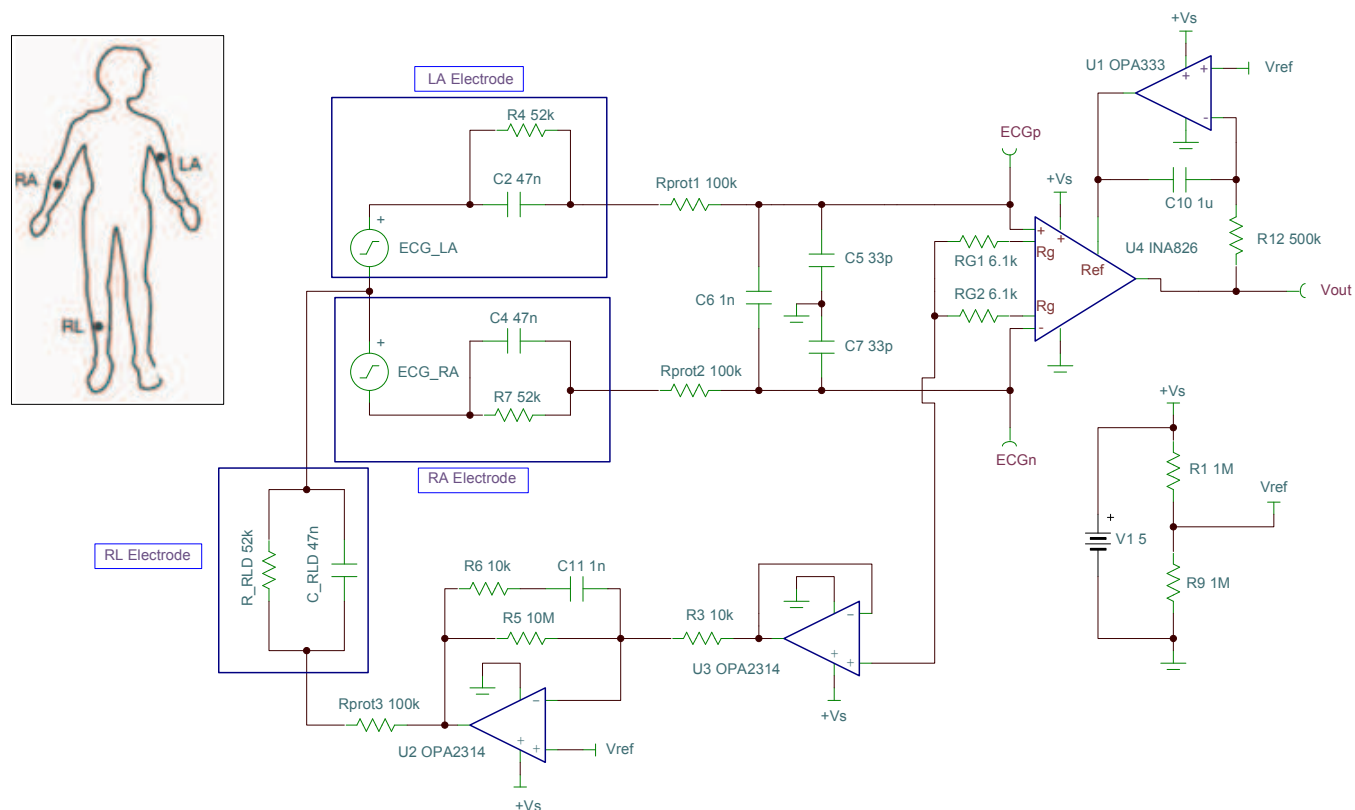

Figure 67. ECG Circuit
Figure 67 is an example of a LEAD I ECG circuit. The input signals come from leads attached to the right arm (RA) and left arm (LA). These signals are simulated with the circuitry in the corresponding boxes. Protection resistors ($R_{\text{PROT}1}$ and $R_{\text{PROT}2}$) and filtering are also provided. The OPA333 is used as an integrator to remove the gained-up dc offsets and servo the INA826 outputs to V_{REF} . Finally, the right leg drive is biased to a potential ($+V_{\text{S}}/2$) and it inverts and amplifies the average common-mode signal back into the patient's right leg. This architecture reduces the 50-/60-Hz noise pickup. Click the following link to download the TINA-TI file: ECG Circuit.